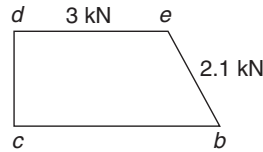

Figure 4.18
To determine R_2 and H_2 , joint (2) can now be considered, as shown by the vector diagram for the joint in Figure 4.18.